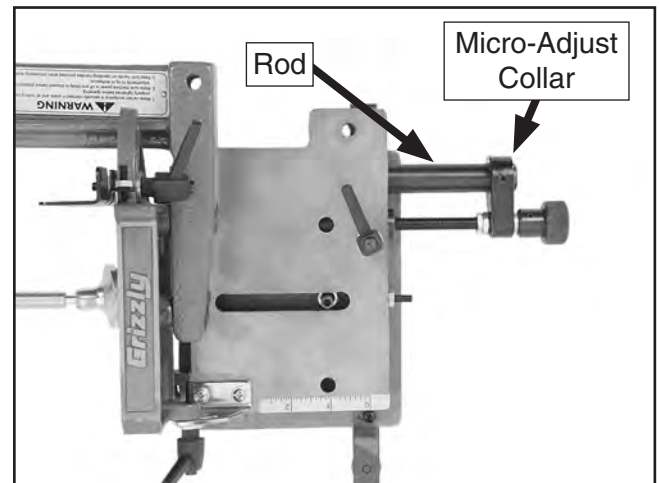

Figure 12. Micro-adjust assembly properly positioned.
8. Slide the micro-adjust collar onto the rod, align the micro-adjust screw with the threaded guide shaft of the slide plate, then rotate the knob clockwise until the collar is even with the rod, as shown in **Figure 12**.